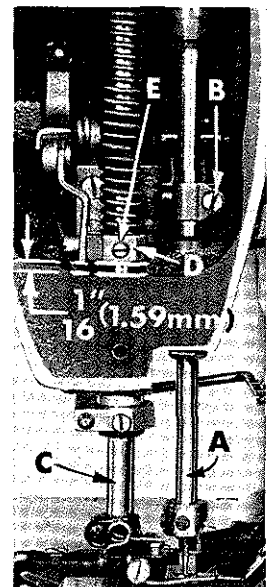
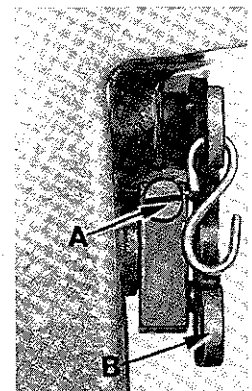

Fig. 4
Fig. 16
Align the needle bar (A, Fig. 4) and set to height, using the proper test pins and test plate of the right gauge. See chart below:
If test plate and test pins are not available, insert a new set of needles (Type and Size as required) and align the needle bar so that the needles correspond with the vertical face of the needle guard. To turn needle bar, loosen needle bar clamp screw (B, Fig. 4) and turn bar as required. Tighten clamp screw.
The height of the needle bar should be correct if proper test plate and test pins were used to "align" needle bar. If not, the height of the needle is correct when the top of its eye is  $3/64$  inch (1.19 mm) below the underside of the looper, with the looper point flush with the left side of the left needle. If adjustment is necessary, loosen screw (B, Fig. 4) and move needle bar (A) up or down as required and retighten screw. Care should be taken not to disturb the alignment of the needle bar when moving it up or down.
If adjustment is needed, loosen tension release lever screw (A, Fig. 16) located at the back of the machine and move tension disc separator as required. Retighten screw. After adjustment there should be no binding at any point.
The height of the presser bar (C, Fig. 4) is set correctly if it is possible to remove the presser foot when the foot lifter lever (B, Fig. 16) is fully depressed. Also there should be approximately 1/16 inch (1.59 mm) clearance between lower surface of the presser bar connection and guide (D, Fig. 4) and the bottom surface of head opening in the bed when the foot lifter lever is released and the presser foot resting on the throat plate, with the feed dog down below the throat plate.
If adjustment is needed, turn handwheel in operating direction until the needle bar is in the low position. Loosen screw (E, Fig. 4) then, while holding presser foot down on the throat plate surface, pry up presser bar connection and guide with a screwdriver to obtain the 1/16 inch (1.59 mm) setting and retighten screw. Check setting by turning handwheel so that needle bar is in its high position and see if presser foot can be removed as mentioned in previous paragraph.